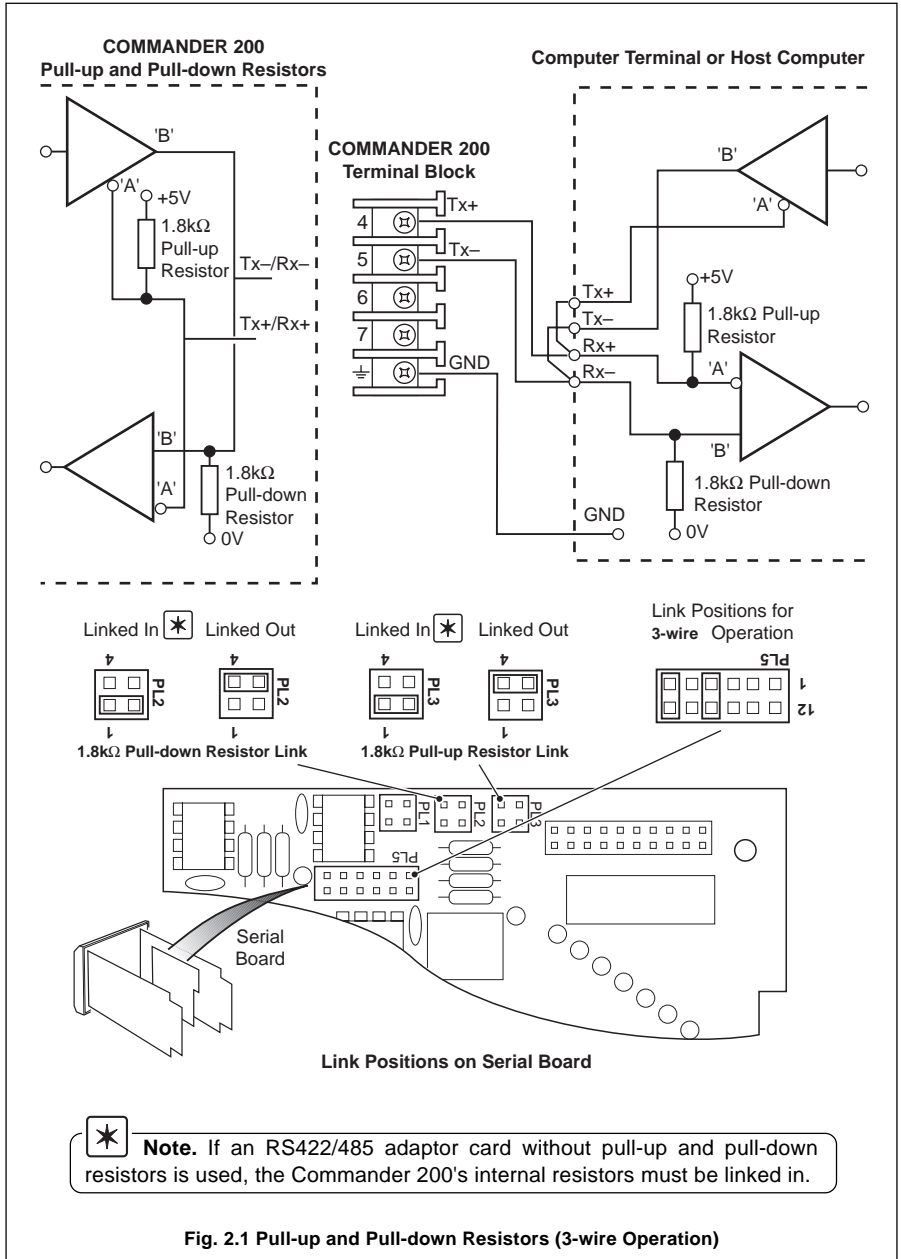

Fig. 2.1 Pull-up and Pull-down Resistors (3-wire Operation)
2.3 3-wire or 5-wire Operation – Figs. 2.1 and 2.2
3-wire or 5-wire operation is selected using a plug-in link (PL5) on the serial board – see Fig. 2.1 for 3-wire operation or Fig. 2.2 for 5-wire operation.
2.4 Pull-up and Pull-down Resistors – Figs. 2.1 and 2.2
To prevent false triggering of the slave (COMMANDER 200) by the presence of noise when the master (host computer) is inactive, 1.8k pull-up and pull-down resistors must be fitted to the RS422/485 adaptor card – see Figs. 2.1 and 2.2.